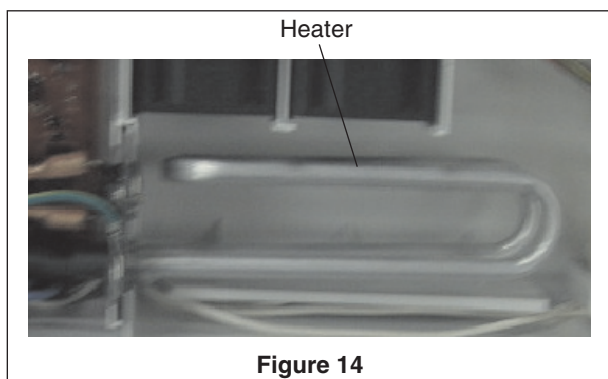

Figure 14
4. A 20 watt 115 V AC electric heater assembly. (See Figure 14.)
The electric heater is used when the customer has selected a drawer temperature higher than the set temperature in the food compartment. The heater is a 115 VAC 20 Watt heater with 651 Ohms resistance, $\pm 10\%$ (See figure 14.)